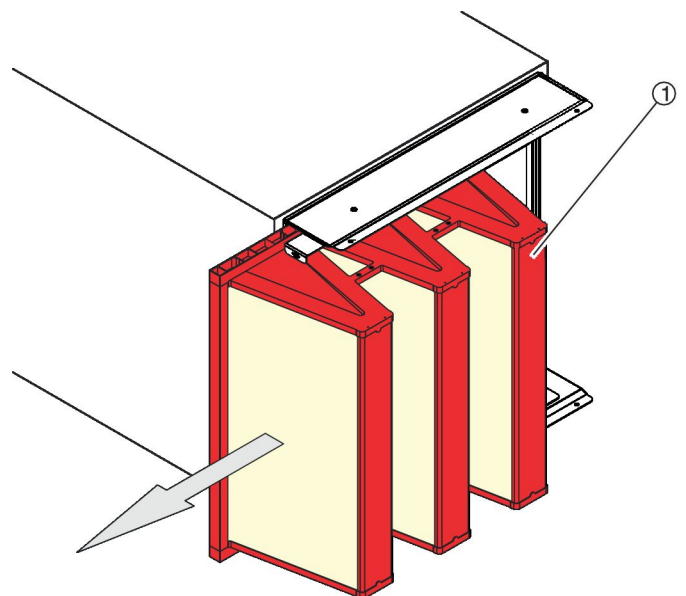

Fig. 59: Removing the filter element
5. ▶ Pull out the filter element (Fig. 59 /1) sideways.